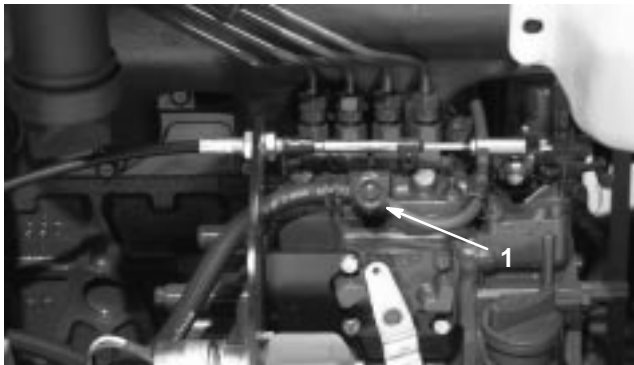

Figure 14
3. Open the air bleed screw on the fuel injection pump (Fig. 14).